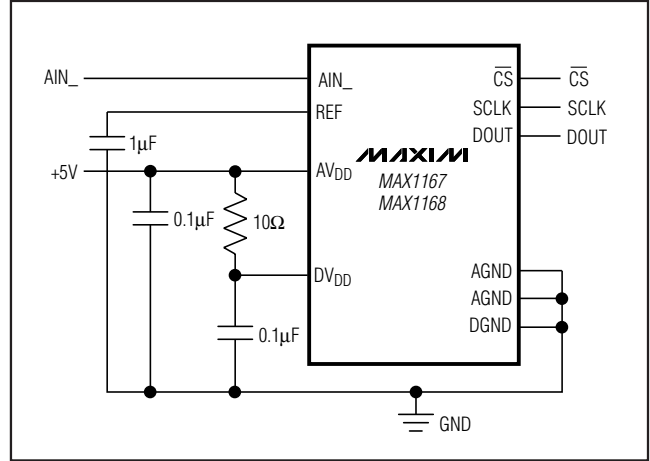

Figure 25. Powering AVDD and DVDD from a Single Supply
Use printed circuit (PC) boards with separate analog and digital ground planes. Do not use wire-wrap boards. Connect the two ground planes together at the MAX1167/MAX1168 AGND terminal. Isolate the digital supply from the analog with a low-value resistor (10 $\Omega$ ) or ferrite bead when the analog and digital supplies come from the same source (Figure 25).